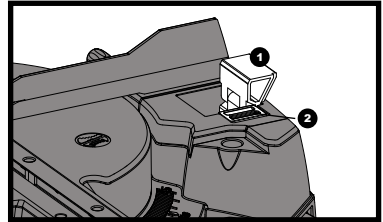

Fig 32
- 1) Slide the sprung-loaded lock (2) forwards.
- 2) Whilst holding the release lock, pull the stop (1) from its stored position upwards and to the right. The stop will deploy to the outboard position.
- 3) Slide the release lock (2) backwards to lock the stop position.
- 4) To stow away, reverse the above steps. (See fig. 32)